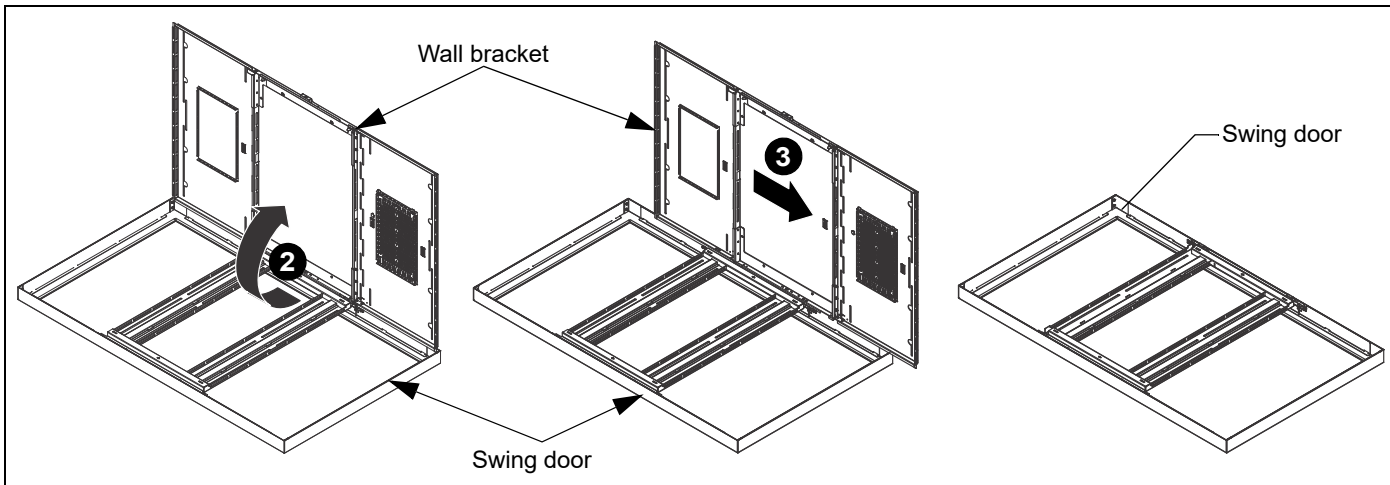

Figure 1
1. Remove kiosk from the packaging and place on a flat surface. (See Figure 1)
3. Keeping the wall bracket at 90°, slide the wall bracket about 1 inch towards bottom of kiosk until hinge pins clear the hinges, and move the wall bracket away from the swing door. (See Figure 1)